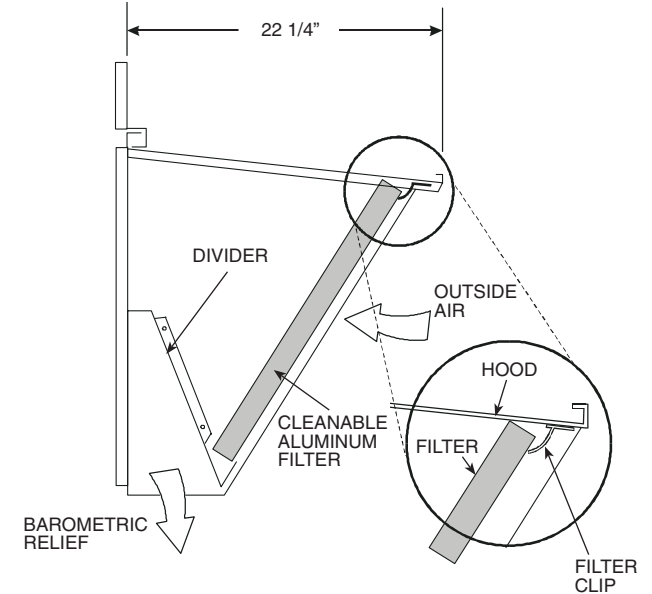

Fig. 25 — Filter Installation
- Open the filter clips which are located underneath the hood top. Insert the aluminum filter into the bottom filter rack (hood divider). Push the filter into position past the open filter clips. Close the filter clips to lock the filter into place. See Fig. 25.